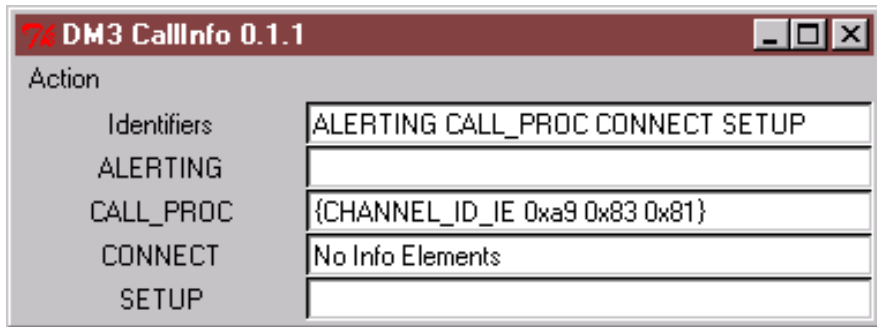

Figure 5. CallInfo Tracing Sample Events
3. After you select events, click the **Action** menu and choose **DetectEvt**. The utility will start tracing the events you selected. Figure 5 shows *CallInfo* tracing sample events. As new call information comes in, it will write over the old call information on the *CallInfo* display. A separate console window will open that tracks messages coming in and shows the message sequence.